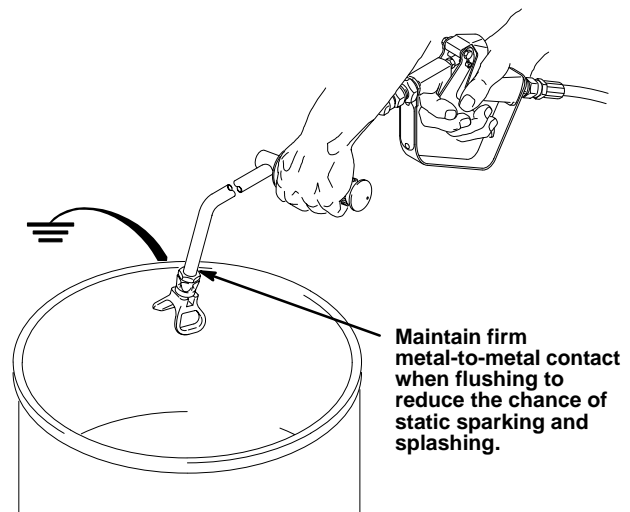

Fig. 6
4. Move the gun to the grounded flushing container. Trigger the gun until clean water or solvent comes from the it. See Fig. 6. Release the trigger and engage the safety latch. Open the drain valve to clean it.